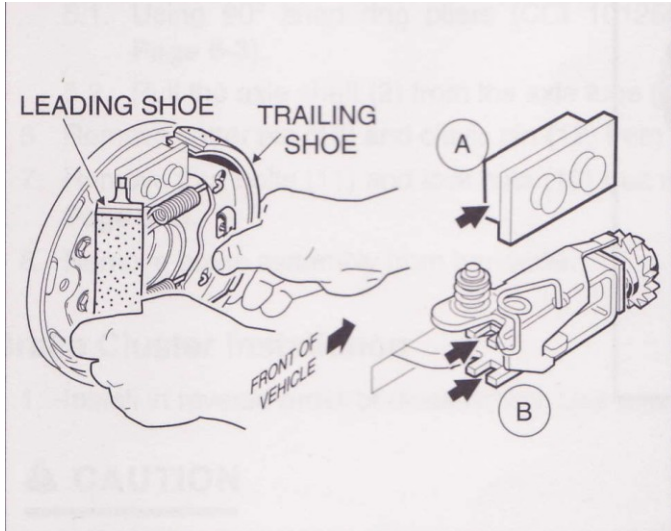

Figure 6-15
4. While maintaining spring attachment on both shoes, position tips of leading shoe in the mounting slots and then push shoe into place. Hold shoe in position and install retaining clip (Figure 6-15).